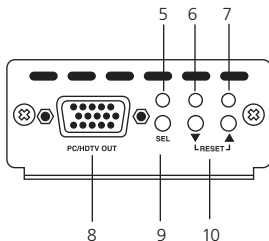

Figure 2-2. Side 2 panel.
Figure 2-2 shows the receiver's Side 2 panel. Table 2-2 describes its components.
3. Connect a monitor and powered speakers to the receiver's VGA and AUDIO OUT connectors. (See Figure 2-2.)